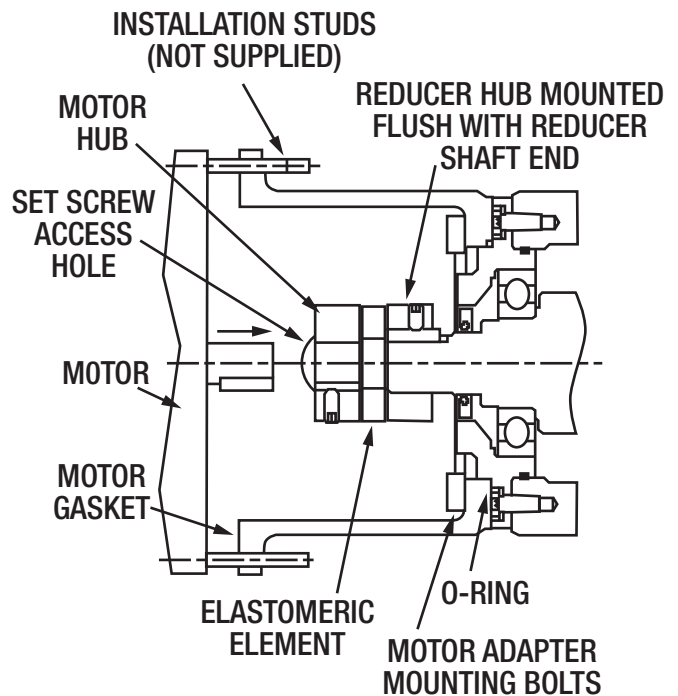

Figure 2 - Motor Mounting
7. Place the reducer on a secure surface with the reducer C-face mounting surface facing up. Align the quill input key with the motor shaft keyway and lower the motor into place making sure the motor tenon fully seats in the reducer motor adapter. If the motor cannot be installed vertically, the use of 2 threaded studs during the assembly will help locate and align the motor as it is being mounted onto the reducer. Thread the studs into any 2 tapped holes in the motor C-face that are 180 degrees apart as shown in Figure 2. Align the reducer key and motor keyway, and also align the threaded studs with the mounting holes in the reducer C-face. Slide the motor into place making sure the motor tenon fully seats in the reducer motor adapter.